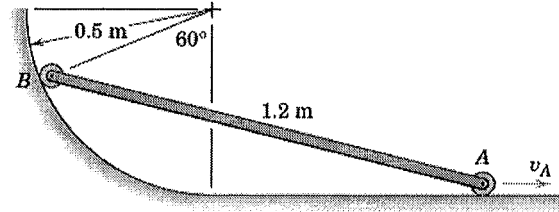

Fig. 6b
(b) At the instant represented, the velocity of point A of the 1.2-m bar is 3m/s to the right. Determine the speed v_B of point B and the angular velocity ω of the bar. The diameter of the small end wheels may be neglected (**Fig. 6b**). (10)